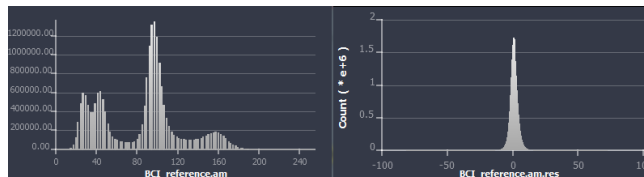

Figure 21.13: Histogram of the Reference Volume (left) and Residual (right)
- Click **Apply** for both (see result on Figure 21.13).